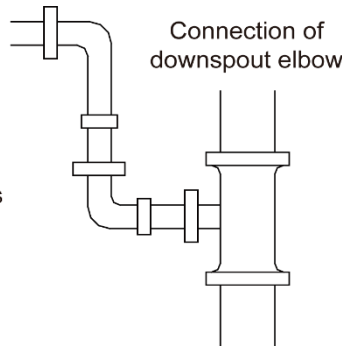

Fig15
- Connection of downspout elbow (Fig15)